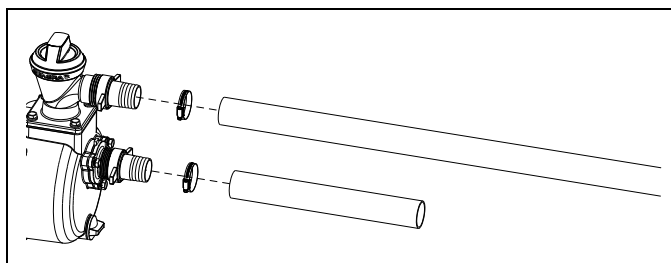

Figure 4-7. Attach Hoses
3. Attach the green suction hose to the green colored flange by sliding the hose over the barb and securing with a hose clamp (Figure 4-7).